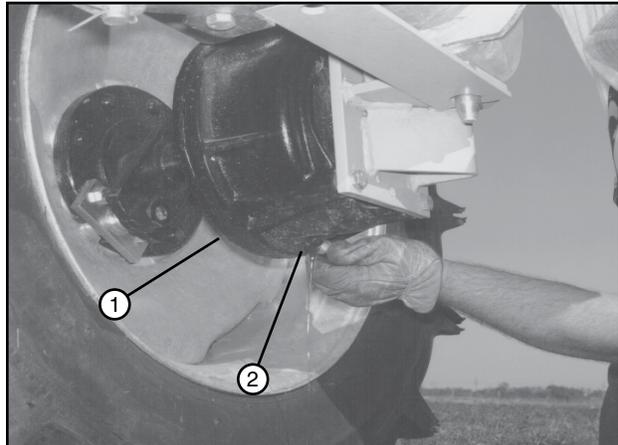

Figure 66-1 1. Wheel Gearbox
1. Remove the drain plug from the bottom of the wheel gearbox and drain the oil into a container. See Figure 66-1.